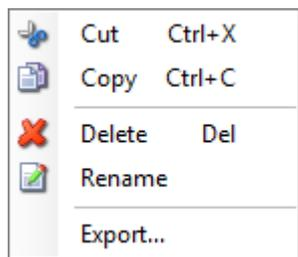

Figure 4-38. Shortcut menu of the File Manager
2. Right-click the LabBook you wish to delete in the right-hand list. A shortcut menu opens, see Figure 4-38.